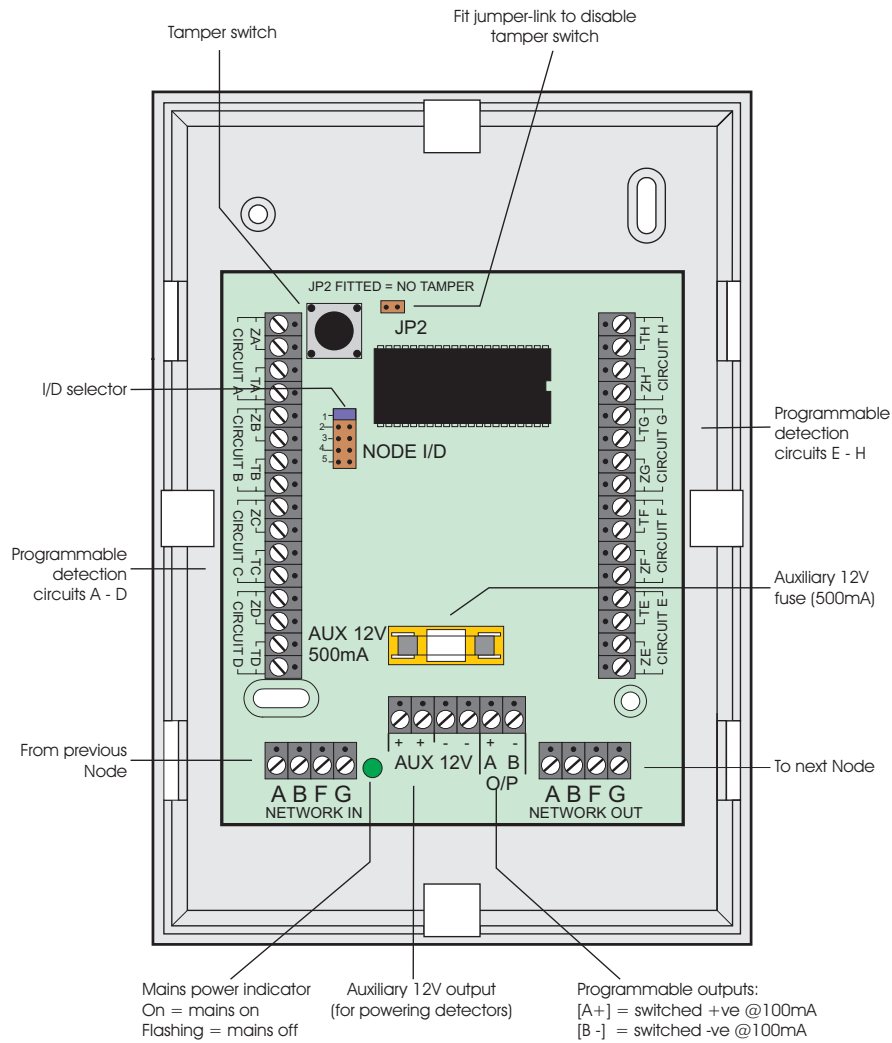

Figure 15. TS900 Node Layout
2. If the Node is being fitted inside the control panel you may remove the Node PCB from its base and secure it to base of the control panel using self adhesive feet. If required, the tamper switch can be disabled by fitting the jumper link across JP2, see *Figure 15*.